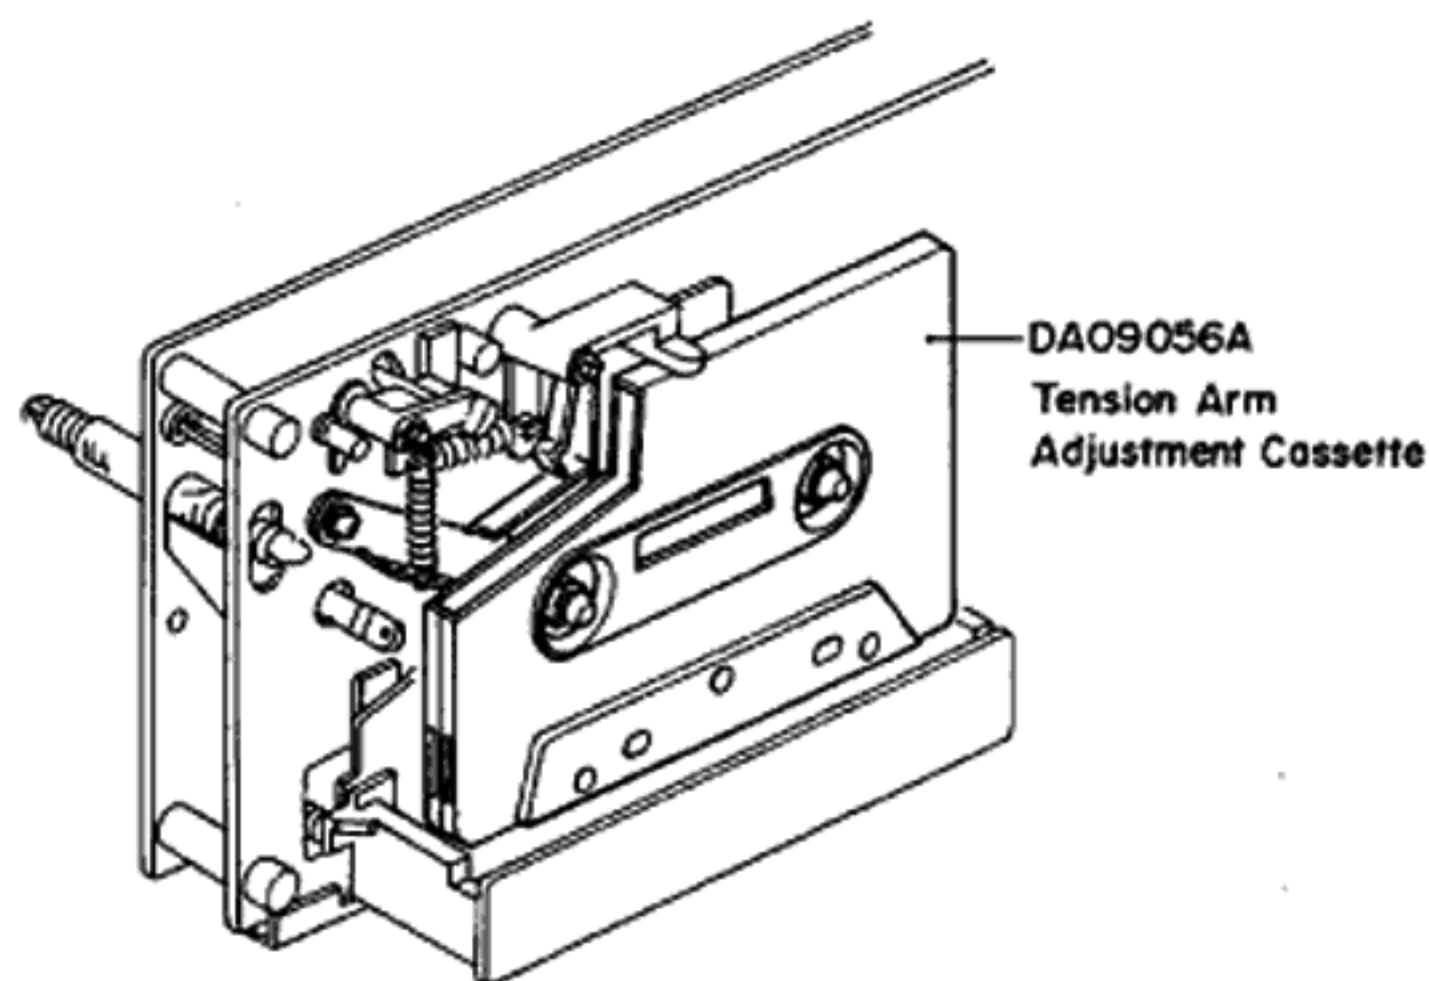
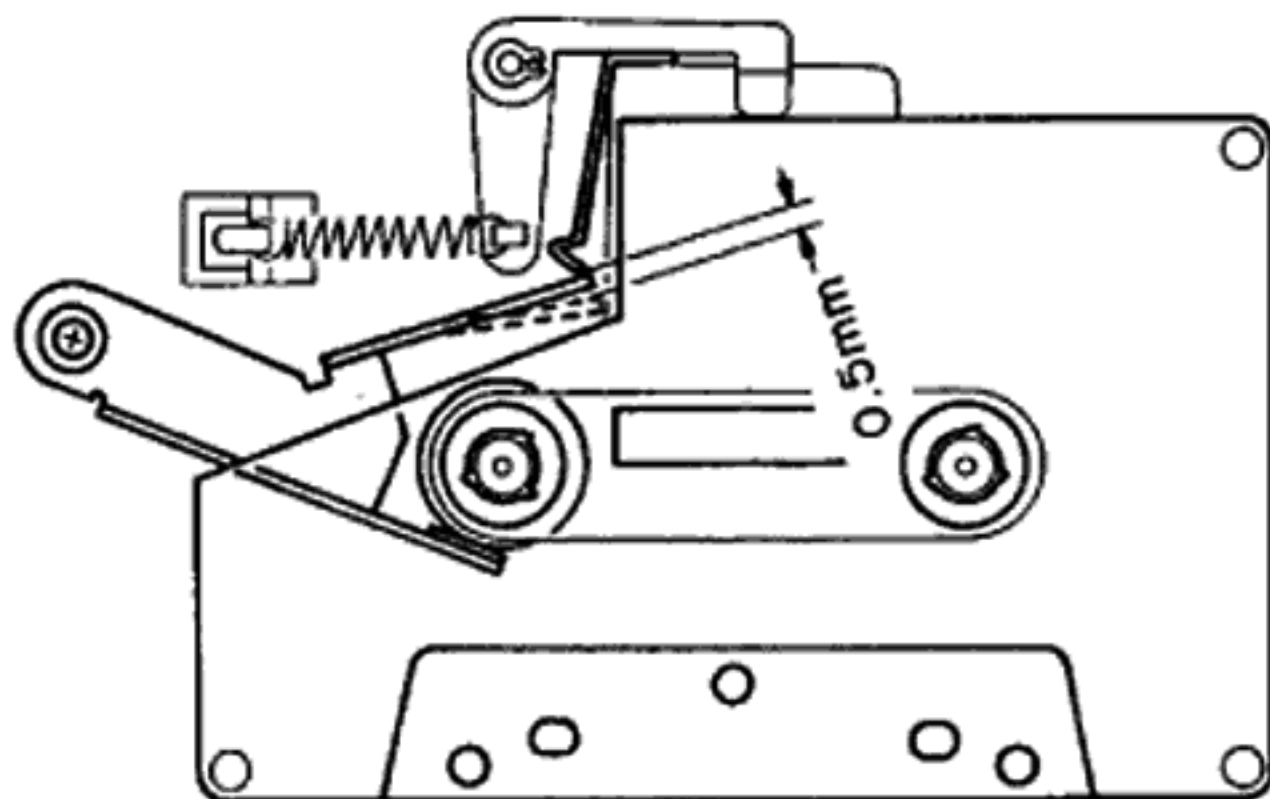

Fig. 4.13
Fig. 4.14
Refer to Figs. 4.13 – 4.16.
- (1) Load a Tension Arm Adjustment Cassette (DA09056A) in the ZX-7 referring to Fig. 4.13.
- (2) Set the ZX-7 in Play mode.
- (3) Bend the Back Tension Arm with pliers so that the gap between the Cassette Holding Spring assembled on the Head Base Ass'y and the Back Tension Arm becomes 0.5 mm as shown in Fig. 4.14. Do not bend the top of the Back Tension Arm.
- (4) Set the ZX-7 in Stop mode, and remove the Tension Arm Adjustment Cassette (DA09056A), then set the ZX-7 in Cue mode.
- (5) Load the Back Tension Gauge (DA09055A) in the ZX-7.
- (6) Set the ZX-7 in Play mode and read the torque value of Back Tension Gauge.